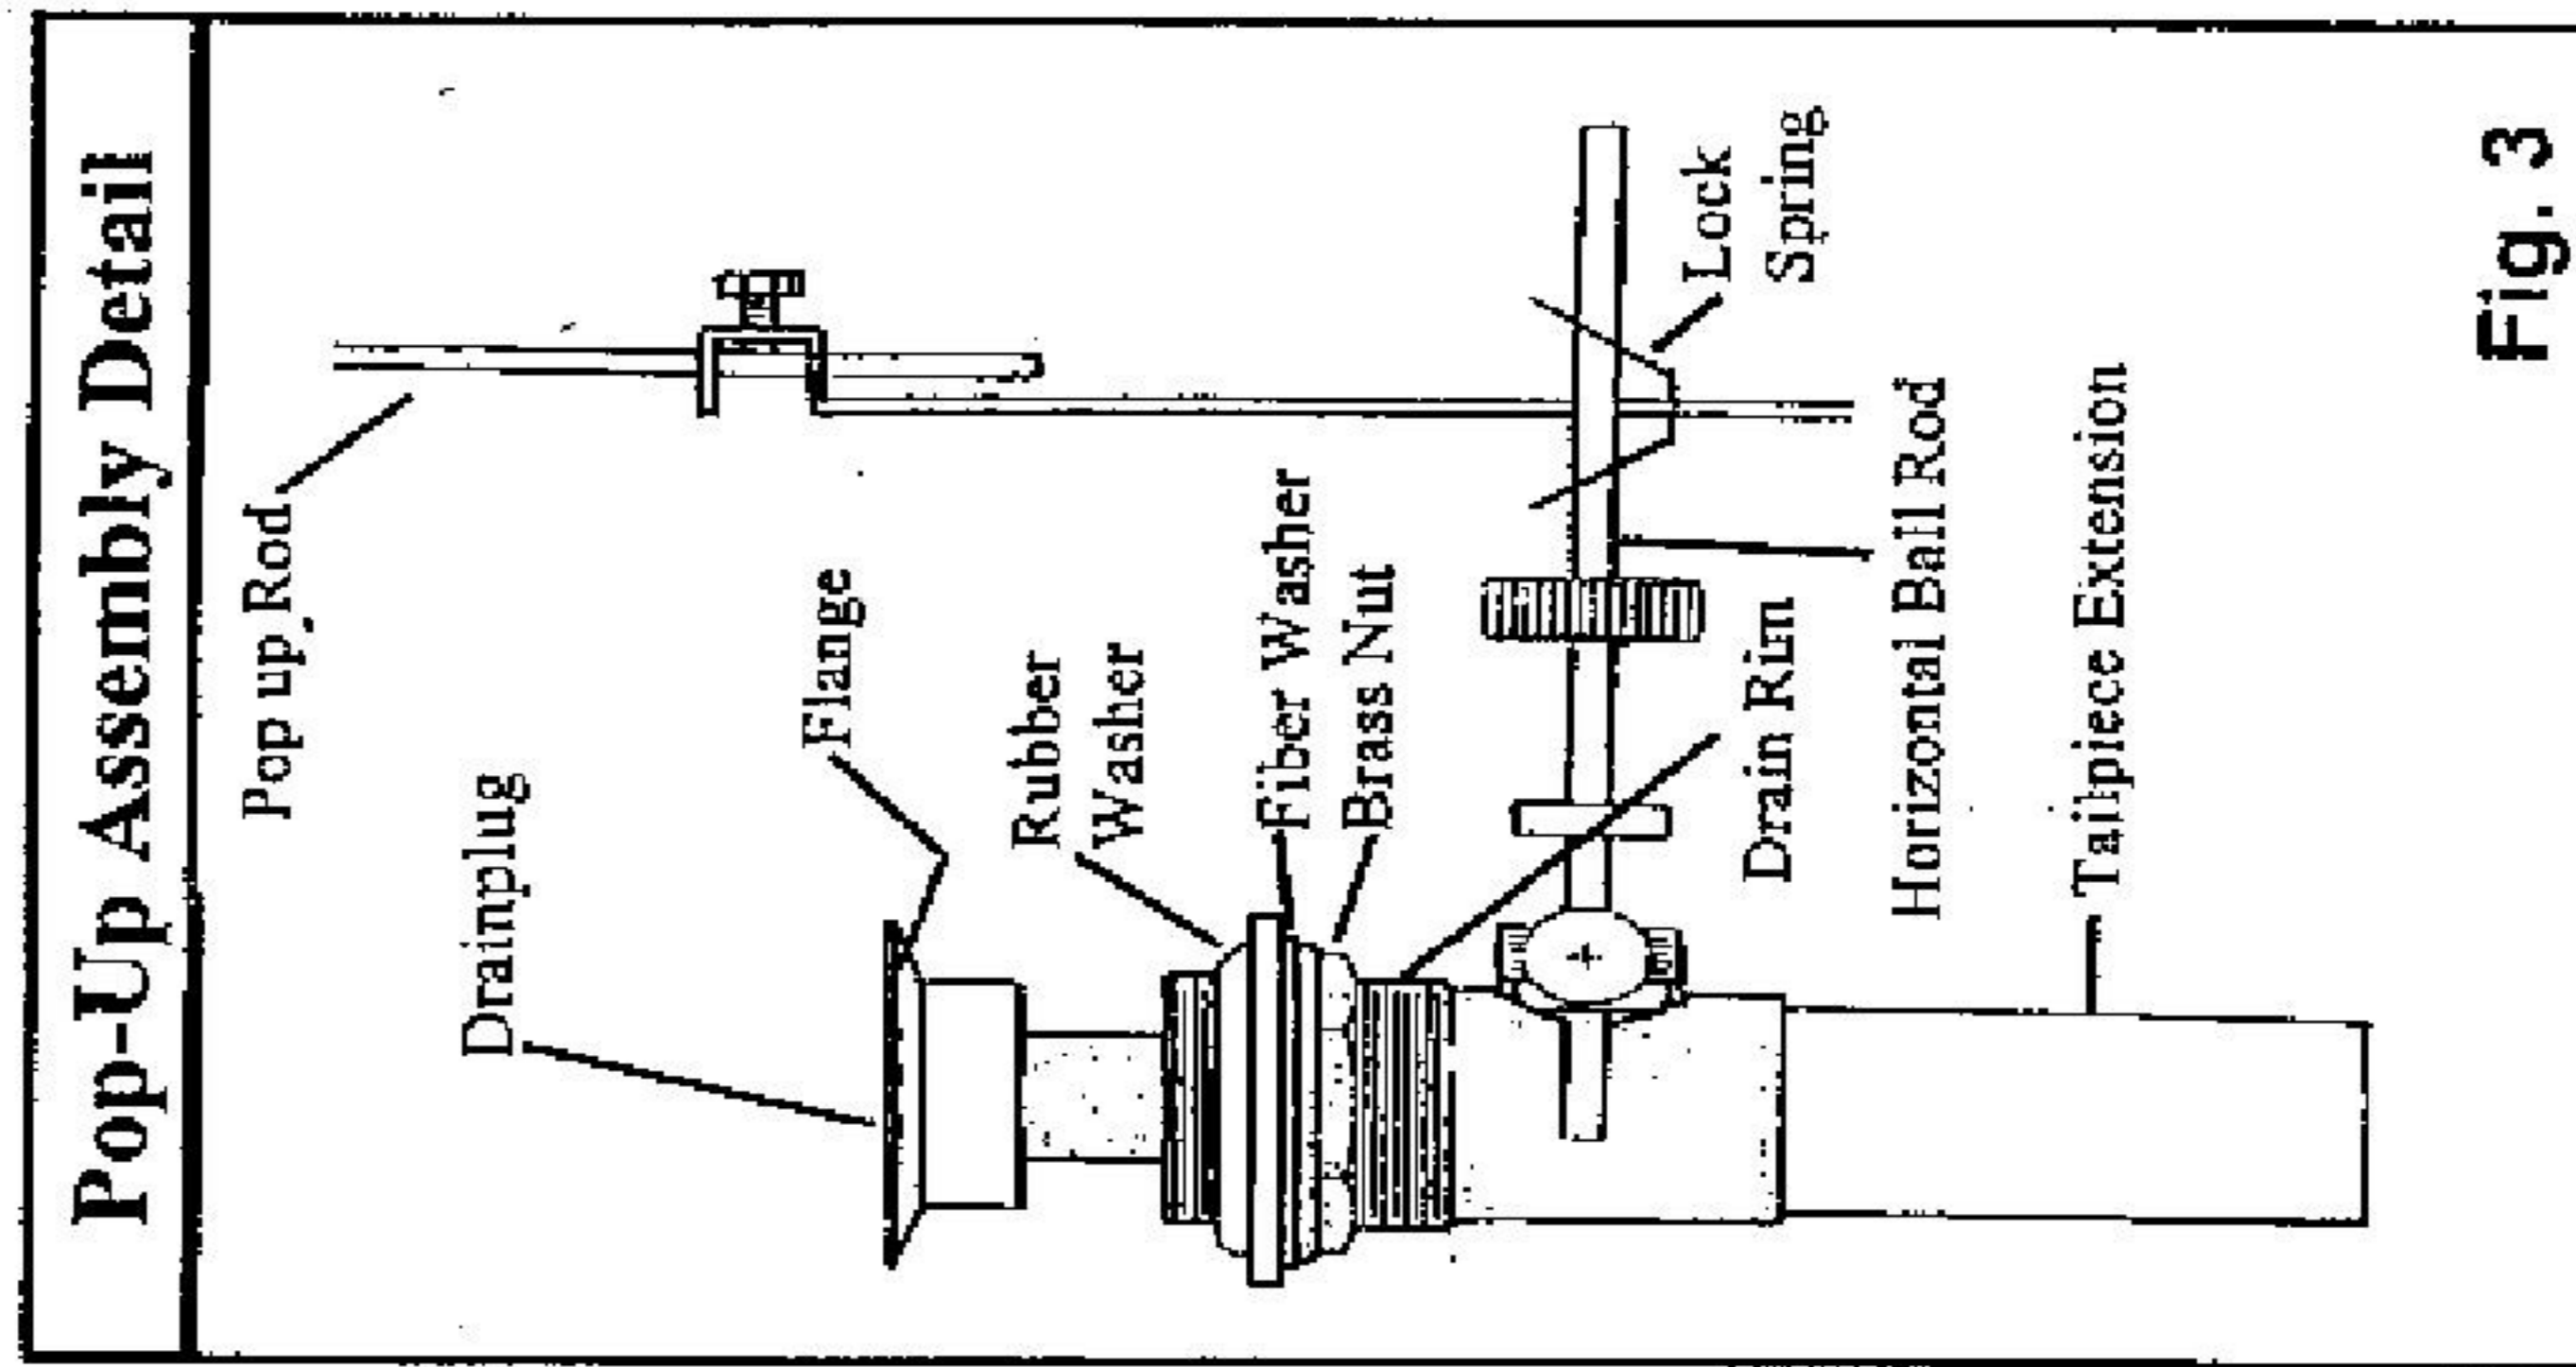

Fig. 3
- 4. Install Pop-Up Assembly:** (See Fig. 3)